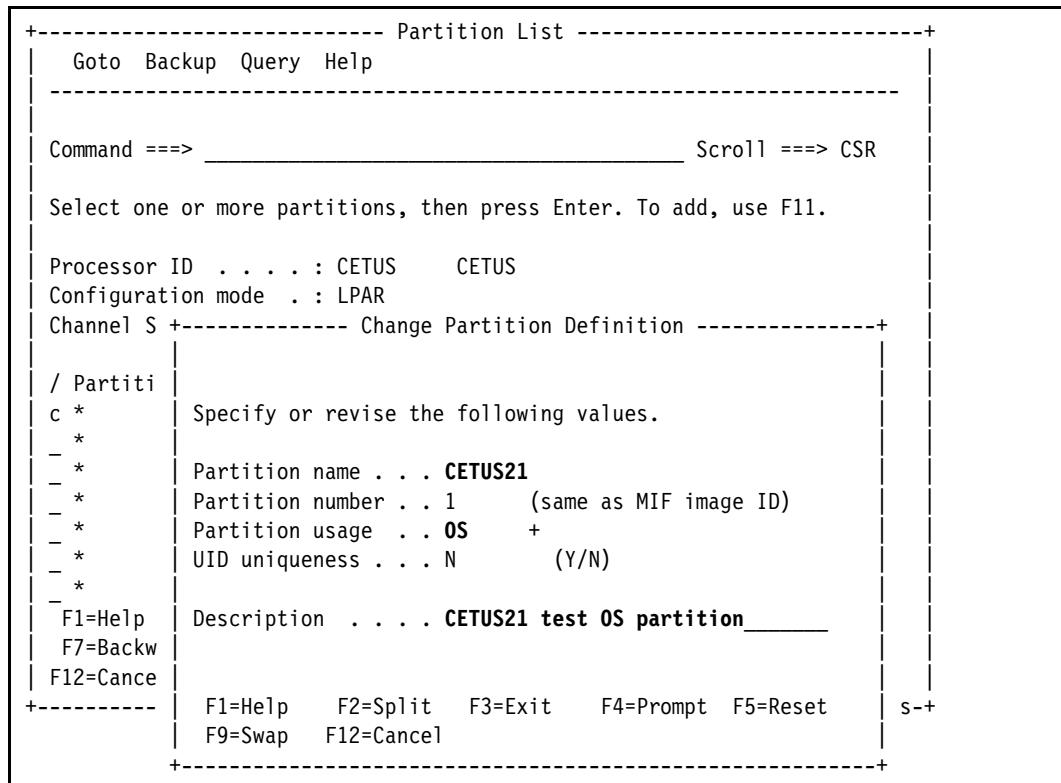

Figure 11-6 Processors: Change Partition Definition
5. Make the following updates (Figure 11-6) and press **Enter**: